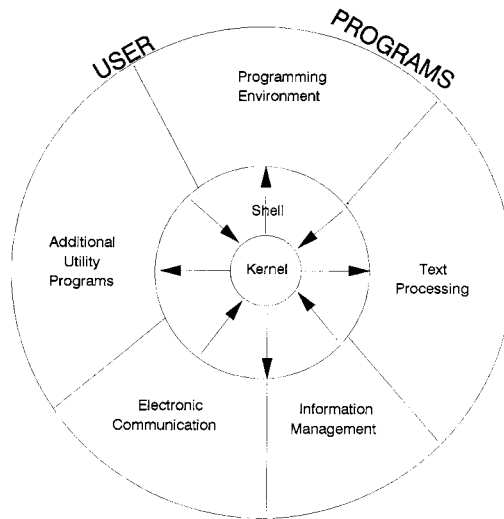

FIGURE 4.1-1 - SCO UNIXWARE System Components
- Each circle (Figure 4.1-1) represents one of the main components of the SCO UNIXWARE, namely, the kernel, shell, and user programs or commands. The arrows show how the shell acts as a medium to allow communication with the kernel.